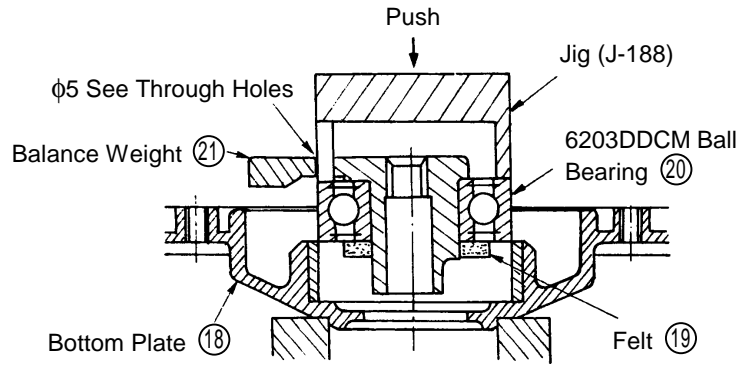

Fig. 10
- C. Finally, as illustrated in Fig. 10, mount a J-188 Jig (Special Repair Tool, Code No. 970969 and press fit the assembled Balance Weight ②①, 6203DDCM Ball Bearing ②① and Felt ①⑨ into the Bottom Plate ①⑧.